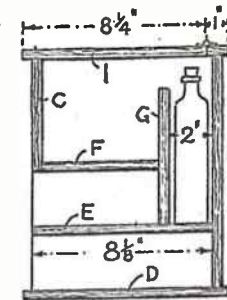
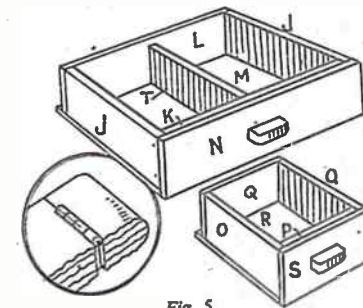

Fig. 4
Fig. 5
The lid (I) is just a piece to the measurements given, with a back rail formed by cutting through on a line drawn 1 in. in lengthways, see cross section Fig. 4. The two parts are hinged together, either by placing the flaps of the hinges flat as shown in Fig. 4, or by the neater fashion shown in the circled diagram in Fig. 5. The 1 in. wide back rail of the lid must be very
The construction of the drawers is shown in Fig. 5. Before cutting the various pieces which go to the making of them, it will be best to check the openings in the made-up cabinet, then allow full measurements for cleaning off the sides, etc., of each drawer, so as to ensure a good fit. The cross partition (T) of the lower drawer is optional and can be omitted if desired.